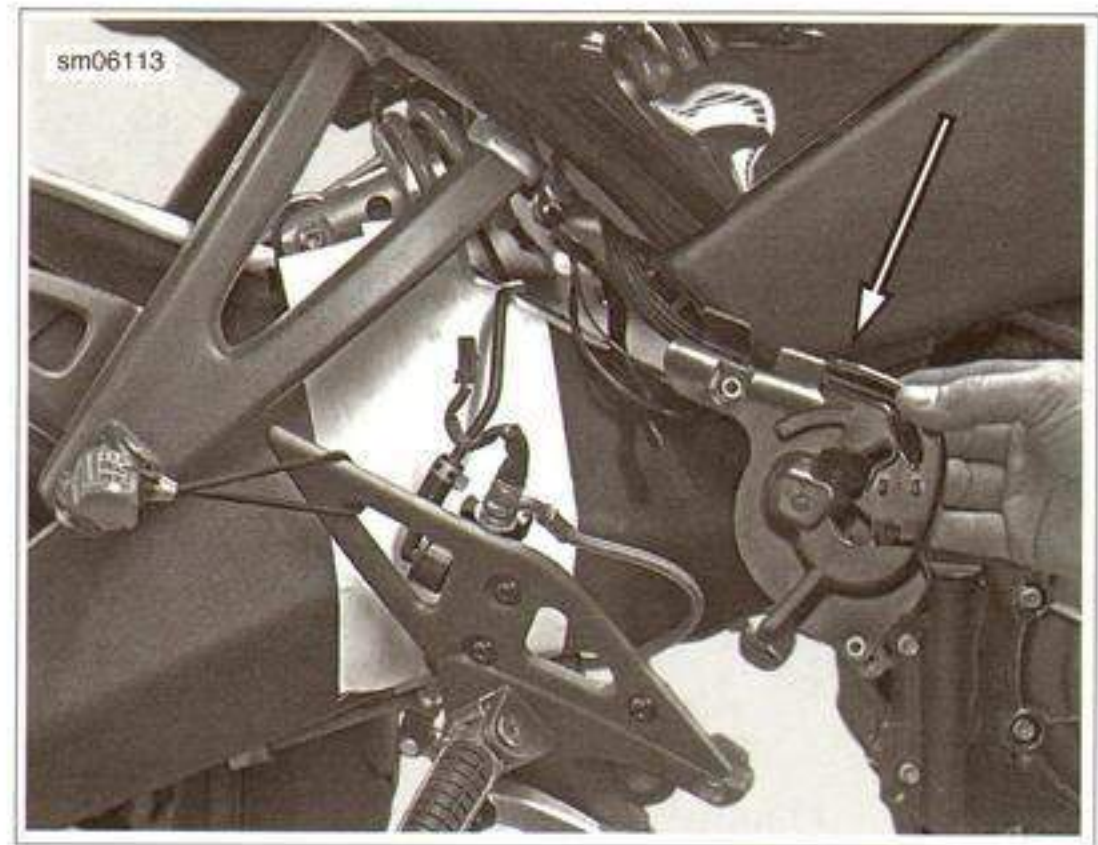

Figure 3-28. Wire Guide/Fuel Pump Cover
8. See Figure 3-28. Remove the wire guide/fuel pump cover fastener and the cover.